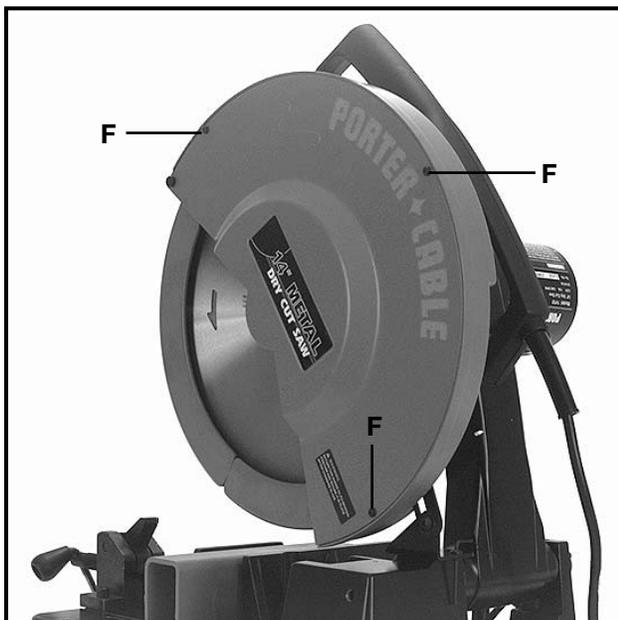

Fig. 16
1. Use the 2.5mm hex wrench (provided) to remove the three blade cover retaining screws (F) Fig. 16. Rotate the blade cover to expose blade (see Fig. 18).